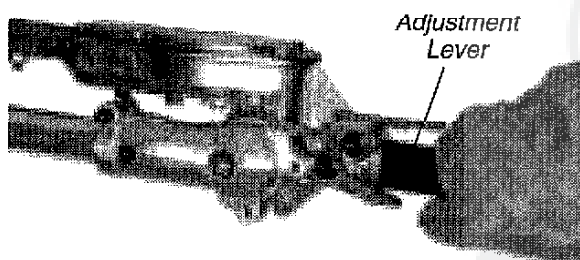

Figure 8
1. With your right hand, grasp the handle, located immediately aft of the hand guard. With your left hand, grip the adjustment lever on the cutter assembly. See Figure 8.